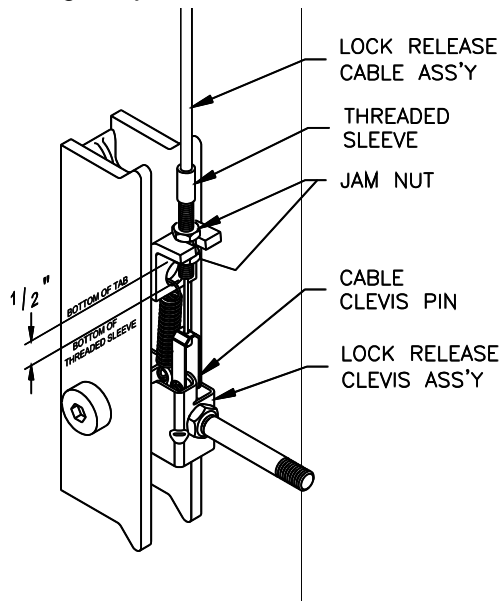

Fig 10 – Power Column Lock Assembly
28) Attach Mechanical Lock Release Cable Assembly to Power Column Lock Release Clevis using the 3/16" diameter x 1/2" long pin and (2) "C" clip retainers, **Fig 10**.
- 29) Insert threaded sleeve portion of cable assembly in slot located on tab above locking pawl, **Fig 10**. One jam nut should be located on each side of tab. Position threaded sleeve with $\frac{1}{2}$ " of thread below tab as indicated in **Fig 10** and tighten jam nuts.